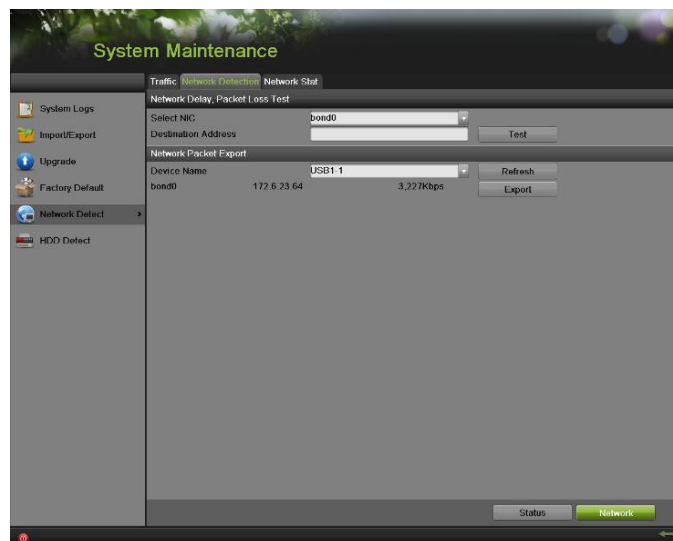

Figure 177 Network Detection
2. Select the Network Detection tab to enter the Network Detection menu, as shown in Figure 177